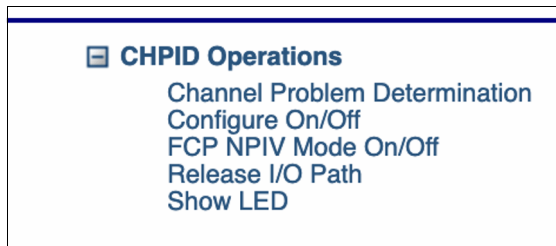

Figure 22 Select Configure On/Off
2. Select the **CHPID Operations** menu in the bottom center pane and select **Configure On/Off**. See Figure 22.